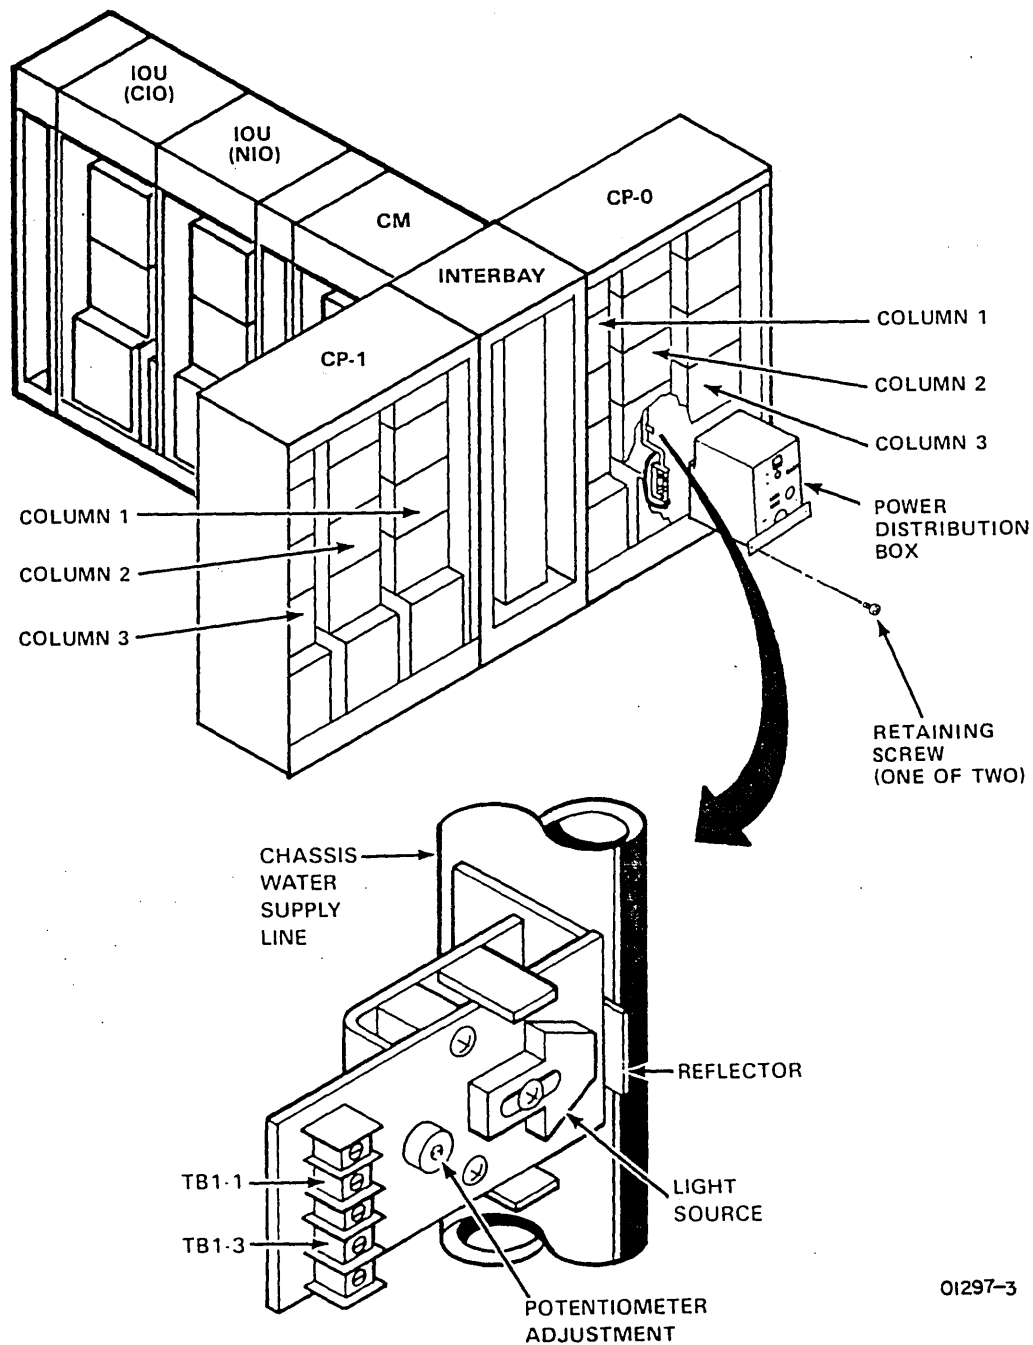

Figure 6-3. CP Low-Temperature Sensor
- ___ 2. Type AR PO (CR) at display station. CP maintenance registers appear on display station screen.
- ___ 4. Type DK (CR). This clears status summary register.
- ___ 6. Place a small piece of paper between light source and reflector on low-temperature assembly on CP-0 column 1 water supply pipe (figure 6-3). Remove paper before 90 s to prevent removal of column 1 power. Observe the following while paper is in place.